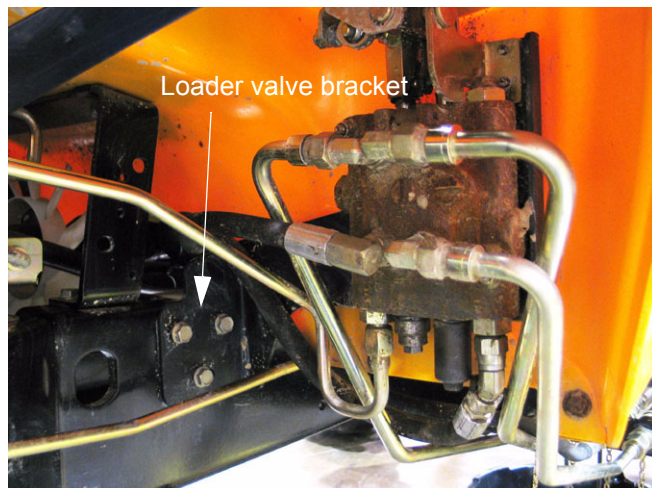

Figure 9.16
- 9.16. Unbolting the loader valve bracket from the frame of the tractor will provide additional wrench clearance between the pivot bracket and the fender. This can be done with a 1/2" wrench. See Figure 9.16.